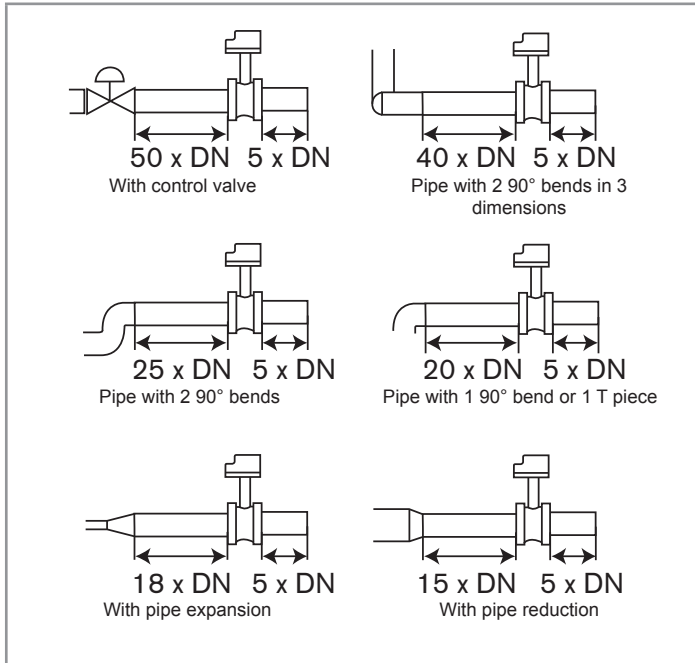

Figure 4: Minimum intake and outlet distances depending on the layout of the pipes.
- Install the fitting in the pipe to ensure compliance with the minimum intake and outlet distances defined by standard EN ISO 5167-1 (see Figure 4).